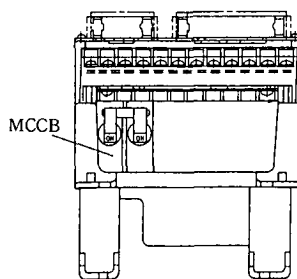

Fig. 11.1 Location of MCCB
- MCCB on the SERVOPACK is ON. (See Fig. 11.1)